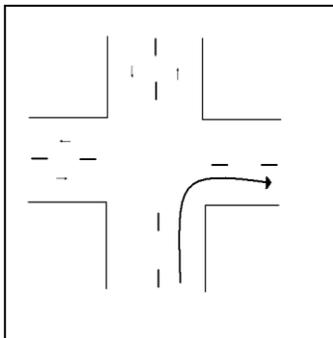

Figure 2-11
C. Right Turns: (See figures 2-11 and 2-12)